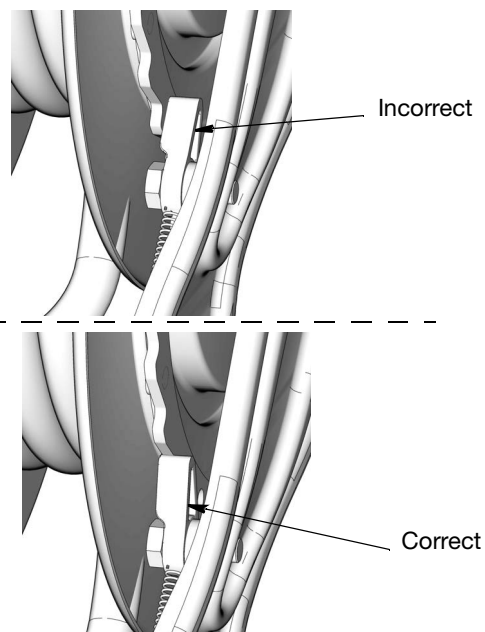

FIG. 4
*Discard the extra 4 screws (101) and washers (102) provided in the Plate Mounting Kit. This hardware is not strong enough to support the cord reel, cord and accessories and should only be used for open channel mounting applications.
2. Check pawl to make sure it is not wedged (FIG. 4). (Also see General Installation Information page 8.)
1. **Ceiling Mount Only:** Position cord reel so the reel base is facing up. Check pawl to make sure it is not wedged (FIG. 4, 9). (Also see General Installation Information page 8.)
1. Check pawl to make sure it is not wedged (FIG. 4, 9). (Also see General Installation Information page 8.)